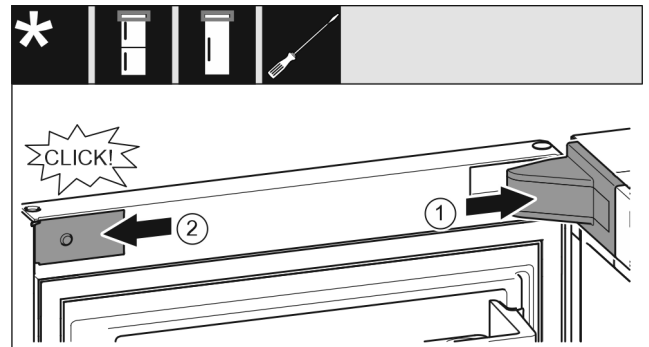

Fig. 23
- ▶ Position the bearing bracket and latch it in place. If necessary push it apart carefully. Fig. 23 (1)
- ▶ Position the panel on the side and latch into place. Fig. 23 (2)